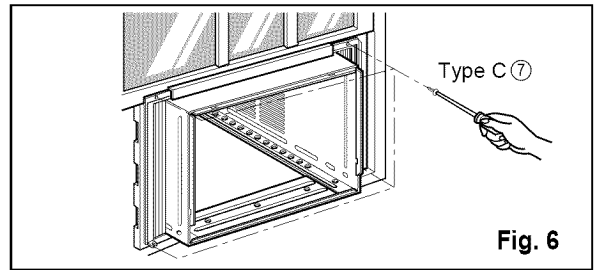

Fig. 6
7. Attach the cabinet to the window stool by driving the screws ⑥ (Type B: Length sixteen millimeters and below.) through the front angle into window stool.
9. Attach each Frame curtain the window sash using screws ⑦ (Type C). (See Fig. 6)